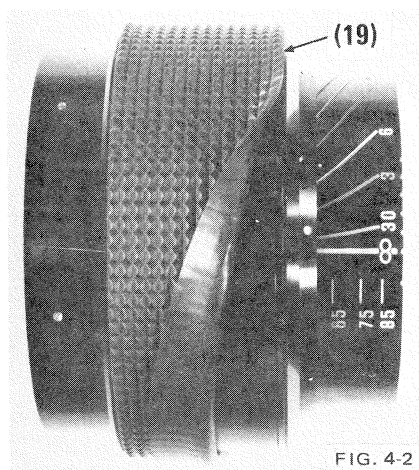

FIG. 4-2
a) Remove grip (19) by rolling it off "like a stocking." Fig. 4-2.